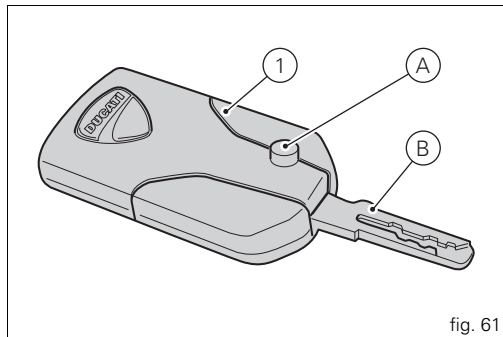

fig. 61
The active key (1, fig. 61) is the one that is normally used and has a button (A, fig. 61) that when pressed makes the metal part exit (B, fig. 61). The metal part returns inside the grip by pushing it in.